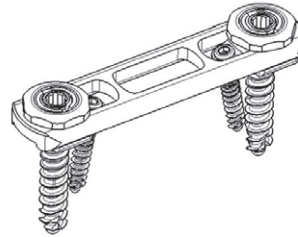

Fig. 3
- Polyaxial Twin Screw system XL with plate or 2 rods, see Fig. 3.